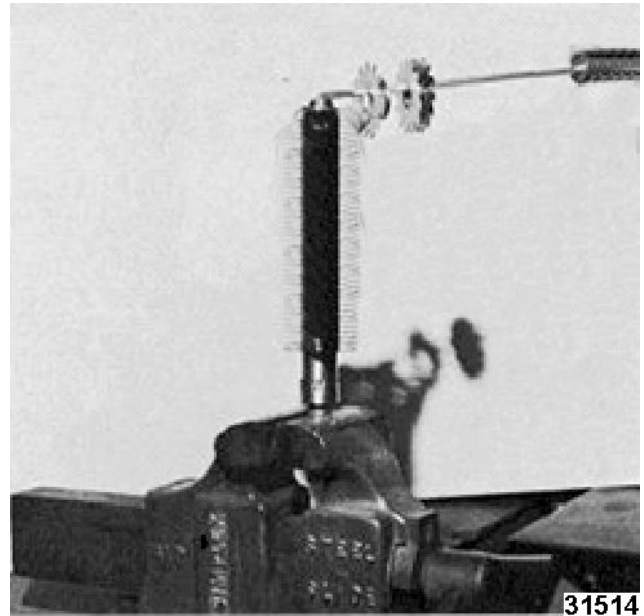

Fig. 14
3. Using a narrow blade screwdriver, stack the blades and spacers (Fig. 14) in the same order as they are removed from the shaft. Continue removing the blades and spacers until the damaged blades and/or spacers are reached.